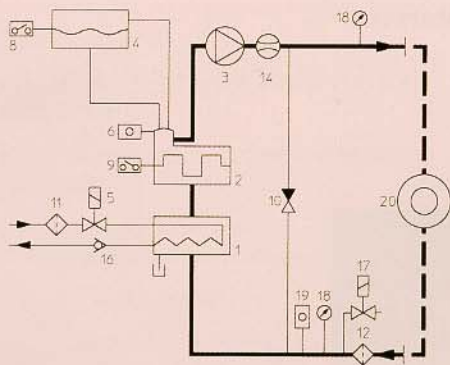

Fig. 5: Principle Type 300 S, 300, 301
- Dual zone (DG) model: → Minimum space requirement.
- Model 350: Cooler with by-pass circuit (Fig.5) → Much better regulating behaviour, reduced tendency to scaling.